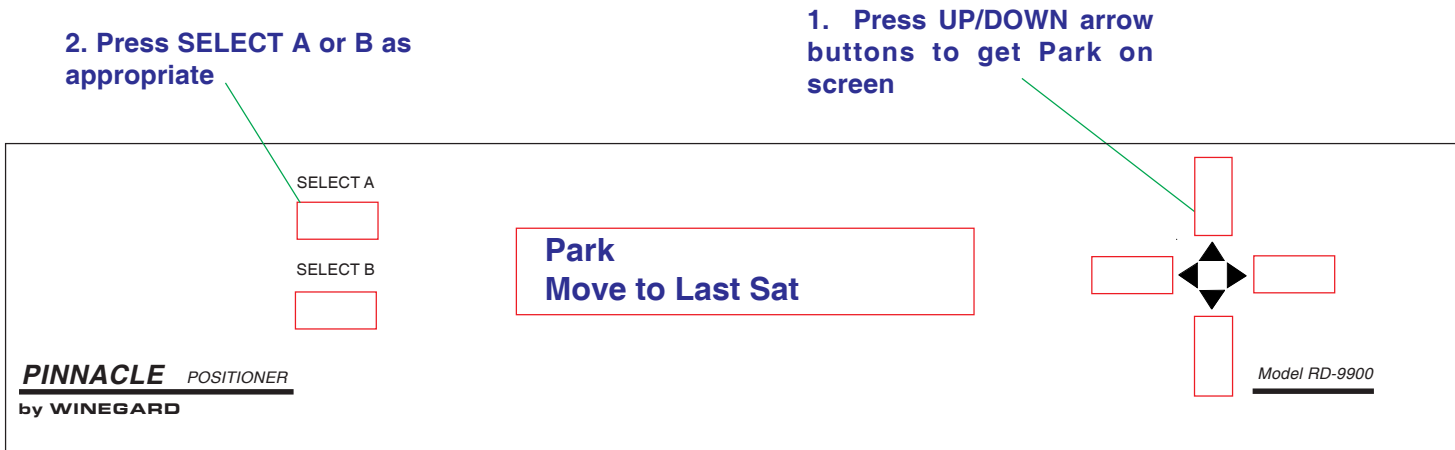

Figure 14
12. Press **[UP/DOWN]** arrow until you get **Park** displayed on positioner display. See Figure 14.
13. Press **[SELECT A or B] Park** to put antenna into park (travel) position. See Figure 14. The positioner will display **Collapsing System** while antenna is moving to travel position.